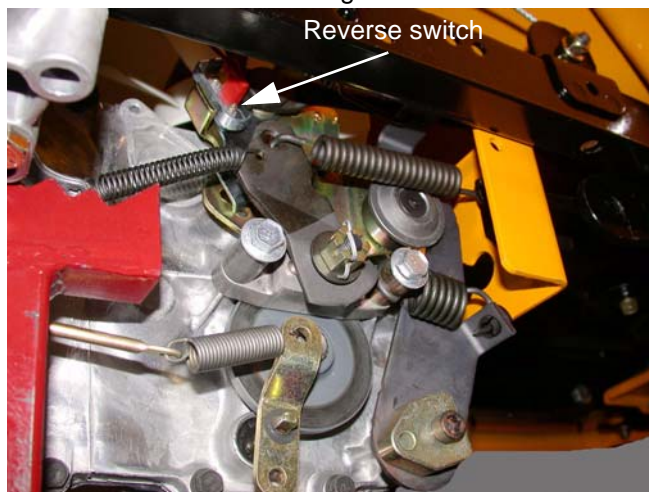

Figure 39.6
- A normally open (NO) set of contacts is in the starter inhibit circuit. When the clutch / brake pedal is depressed, the contacts are closed, power coming from the key switch (key switch in START) through the orange wire is passed on to the PTO switch through the orange wire with black trace.
- A normally closed (NC) set of contacts is in the safety shut-down circuit. A circuit is completed from the M terminal on the key switch, and directly from the magneto primary windings through the pair of yellow wires to the clutch / brake switch through to the yellow wire with black trace when the contacts are closed.
39.6. On hydraulic drive units the reverse safety switch is located on the right side just above the brake arm. See Figure 39.6.